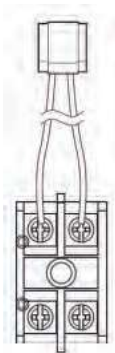
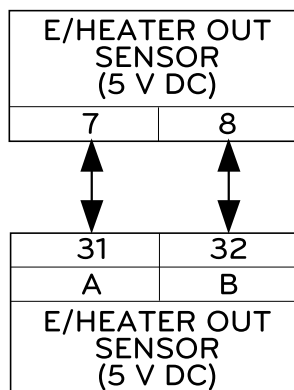

Fig.1
Fig.2
- ① Find backup heater terminal block Kit(Fig. 1).
- ② Assemble the terminal block kit using screw on unit.(referring to 40 page)
- ③ Plug it to 'E/Heater Out' (White Connector) of CN_TH3 in the Main PCB (Unit) as shown Fig.2.